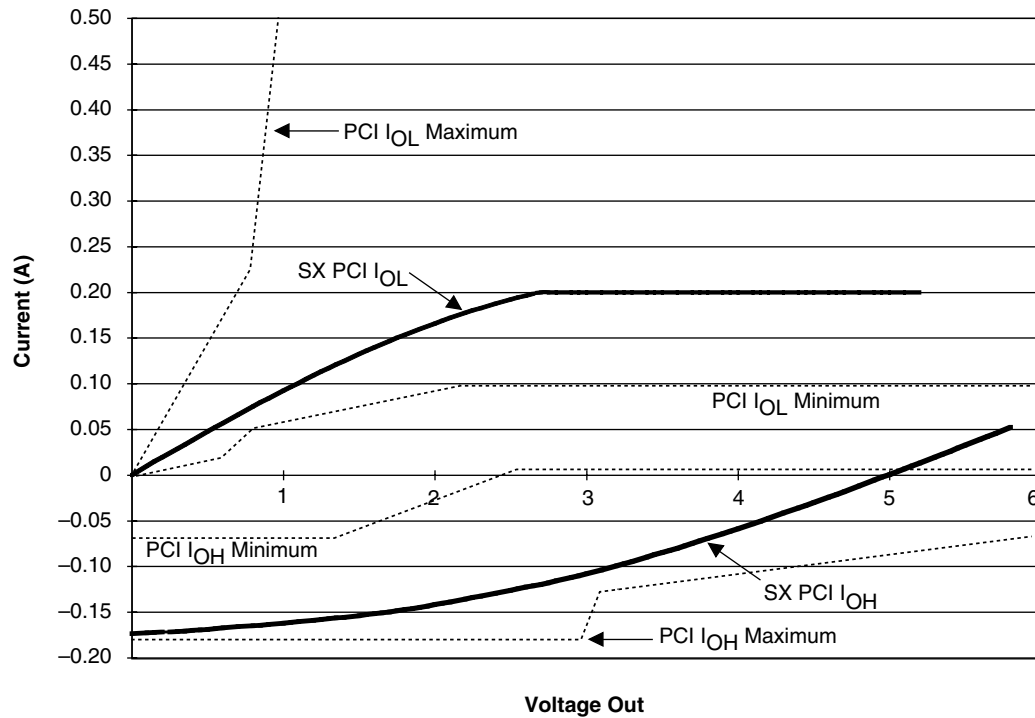

Figure 8 • 5.0V PCI Curve for A54SX16P Family
1. Refer to the VI curves in Figure 8. Switching current characteristics for REQ# and GNT# are permitted to be one half of that specified here; i.e., half size output drivers may be used on these signals. This specification does not apply to CLK and RST# which are system outputs. "Switching Current High" specification are not relevant to SERR#, INTA#, INTB#, INTC#, and INTD# which are open drain outputs.
3. Maximum current requirements must be met as drivers pull beyond the last step voltage. Equations defining these maximums (A and B) are provided with the respective diagrams in Figure 8. The equation defined maxima should be met by design. In order to facilitate component testing, a maximum current test point is defined for each side of the output driver.
Figure 8 shows the 5.0V PCI V/I curve and the minimum and maximum PCI drive characteristics of the A54SX16P family.